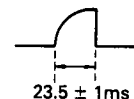

Figure 51.
3. Monitoring TP2 with an oscilloscope (internal trigger), adjust R751 so that the requirement given in Figure 51 be met.